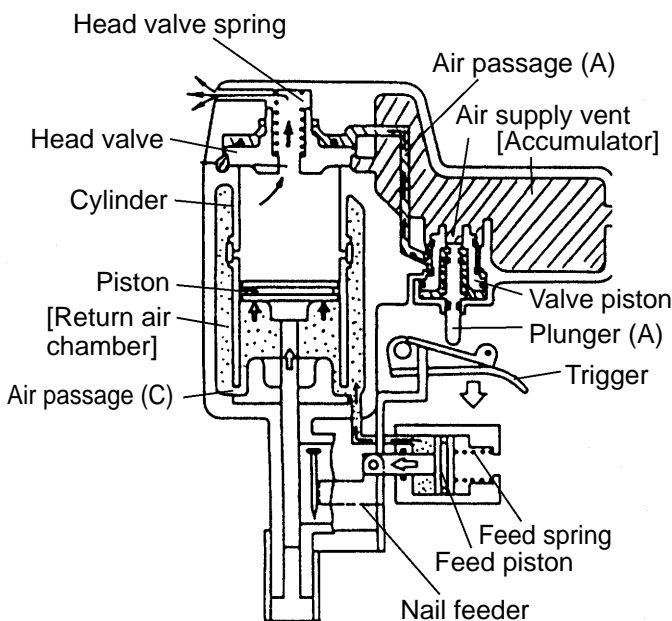

Fig. 9 During return
1. When the piston moves down inside the cylinder, the air below the piston flows through air passage (C) under the cylinder and is accumulated in the return air chamber together with the compressed air flowing through the cylinder hole.
(4) After nailing (see Fig. 9)